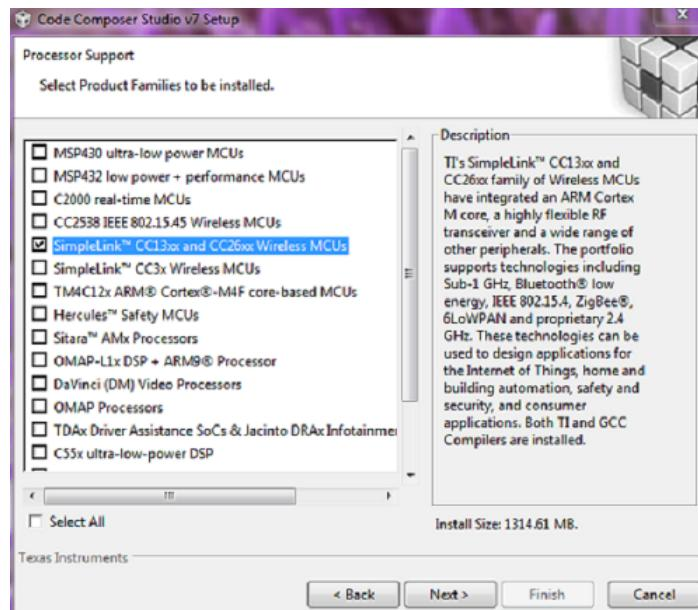

Figure 1. Processor Support Menu
- When installing CCS, on the Processor Support menu expand the list of SimpleLink Wireless MCUs, and then select → SimpleLink CC13xx and CC26xx Wireless MCUs, as in Figure 1.